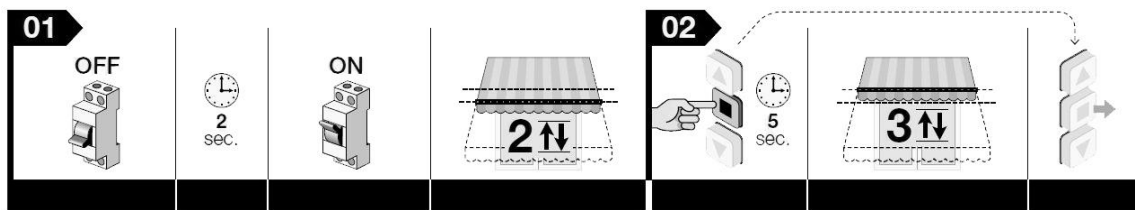

Figure 40
1. Cut out the AC power to the motor, wait for 2 seconds and put back the AC power to the motor; the motor will move twice and remain in waiting mode without any time limit, **see figure 40.**
2. Keep the ■ button pressed until the motor moves 3 times, once the motor has moved for the 3rd time, release the button, **see figure 40.**